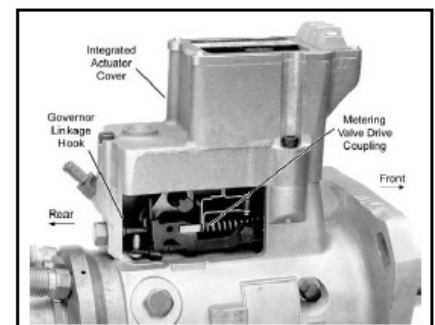

Figure 5
4. Carefully slide the integrated actuator cover toward the rear of the pump until the horseshoe portion of the metering valve drive coupling contacts the pump's governor linkage hook as shown in Figure 5. Once contact has been made, continue moving the integrated actuator cover in the same direction until the mounting holes between the integrated actuator cover and the pump body are aligned.
6. Install a new O-ring (item 3), on the return line connector assembly retained from the original governor control cover. Apply a light coating of all-purpose grease to the O-ring and install connector into the 7/16-20 UNF-2A threaded hole located in the integrated actuator cover. Tighten to 43-53 lbs./in. See CAUTION below.